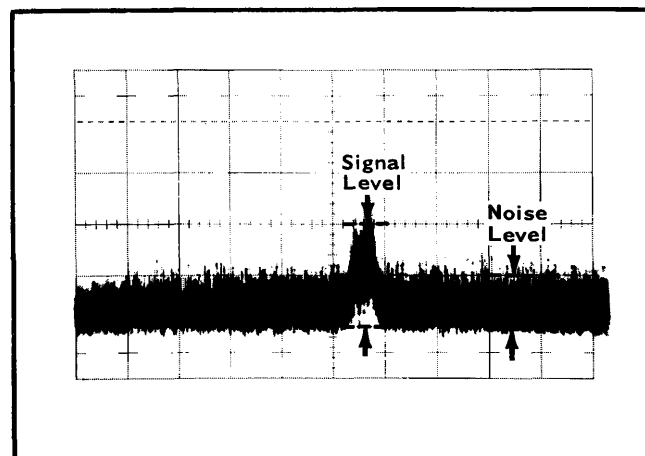

Fig. 5-2. Typical display for Sensitivity check (Step 6).
e. Adjust the RF Attenuator control of the generator so that the displayed signal is twice as high as the noise level. (See Fig. 5-2).